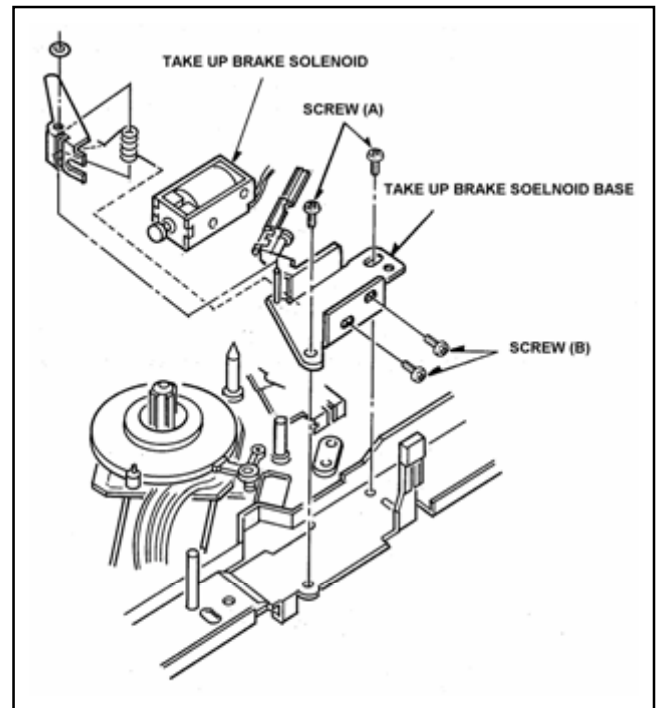

Figure 5-9-1
2. Unscrew the 2 screws (A) and remove the Take Up Brake Solenoid Base Unit as shown in Figure 5-9-1.
3. Unscrew the 2 screws (B) and remove the Take Up Brake Solenoid from Take Up Brake Solenoid Base Unit as shown in Figure 5-9-1.
Hang on the Take up Brake Spring as shown in Figure 5-9-1.